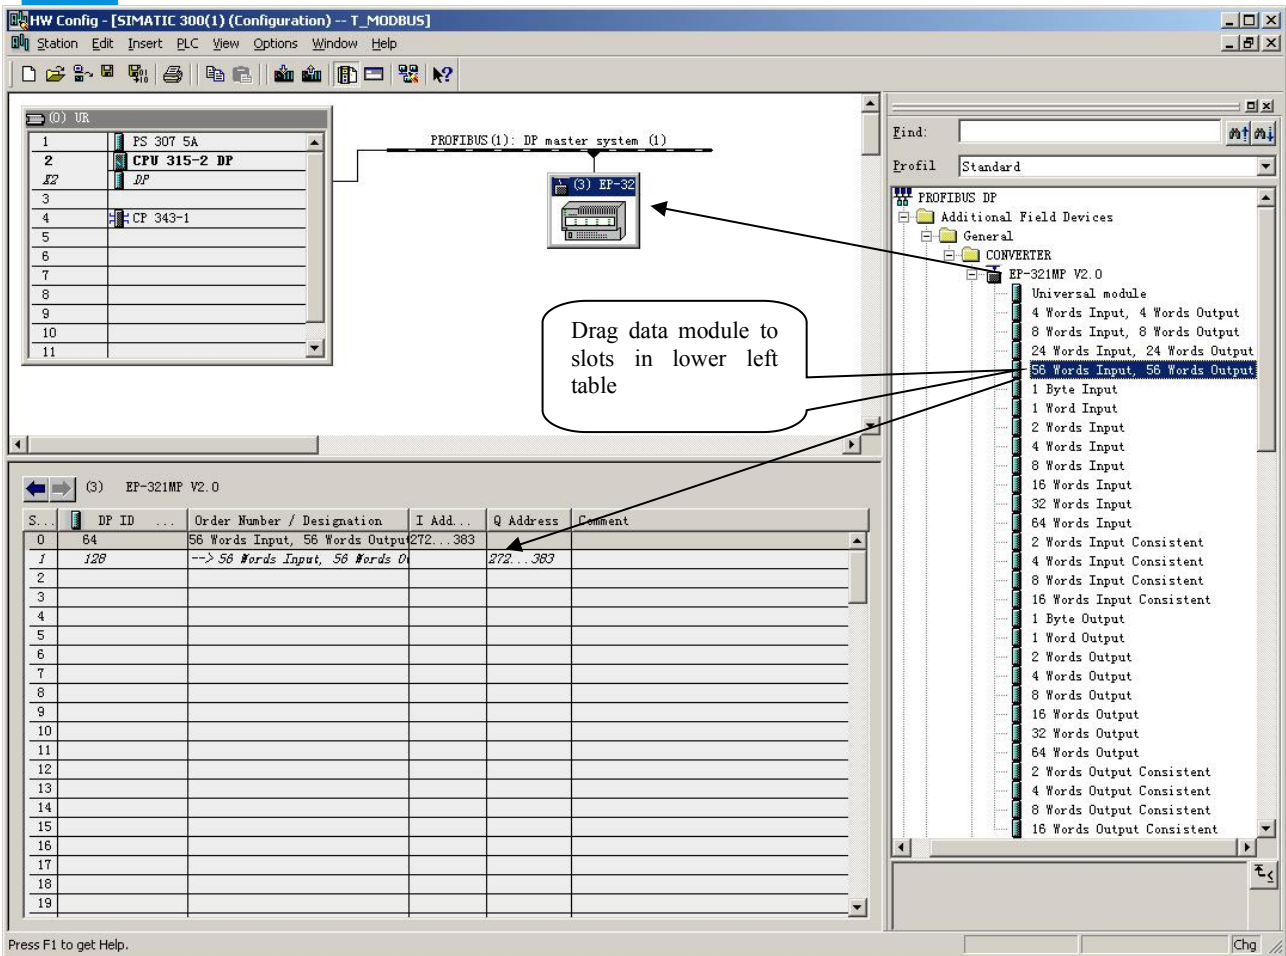

Figure 10
11. Drag EP-321MP to PROFIBUS DP network bus, and drag data modules to slots, that is mapping the input and output data module into master controller's memory. Figure 10: